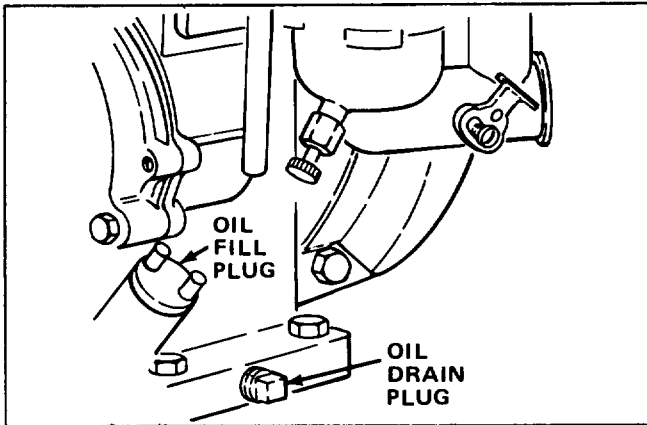

Figure 17
CHANGING OIL (Fig. 17)
3. While holding front of edger up slightly, remove oil fill and drain plugs (Fig. 17). Slowly tip forward and empty all oil into drain pan. Tip up and down several times to ensure oil drains completely.